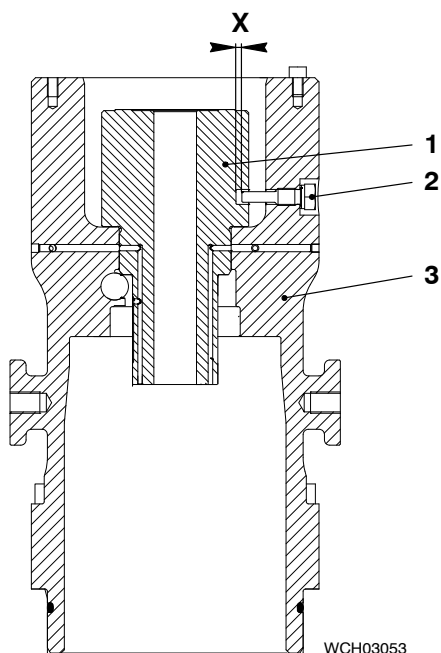

Fig. 12
- 4) Use a low-pressure air supply to make sure that the bores in the housings and the pump cylinder (1, Fig. 12) are clear.
- 5) Make sure that the top housing (3) points up.